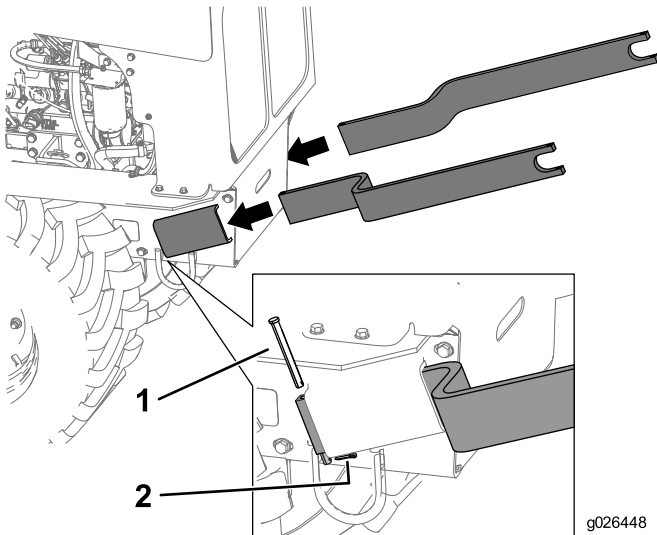

Figure 1
1. Insert the reel carrier arms into the channels on each side of the machine as shown in Figure 1 and secure the arms with a cotter pin and clevis pin.